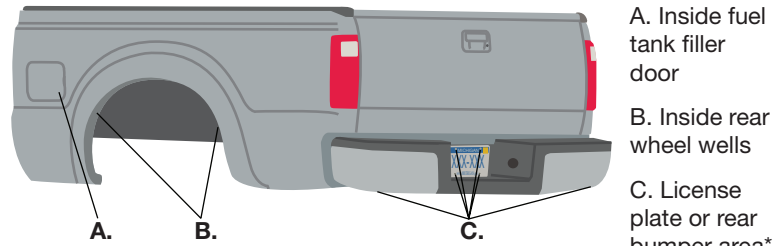

fig. 19
6. Torque evenly to 10 lb.-ft. (14Nm) (Fig. 19). Repeat for the other side.